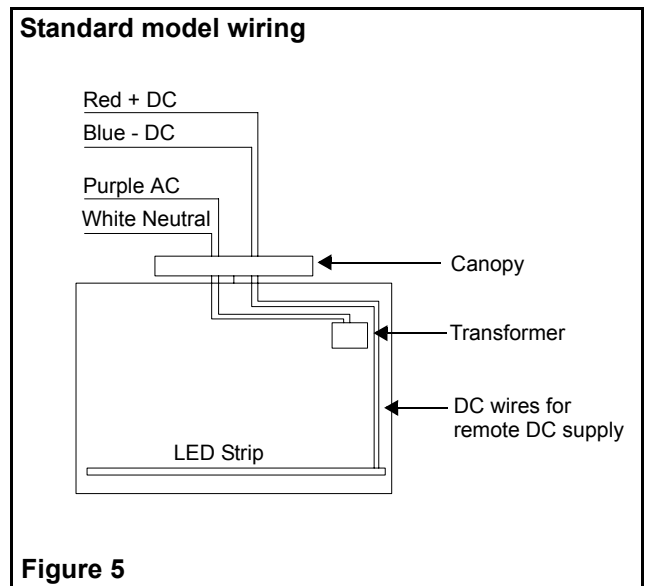

Figure 5
- g. Route the AC supply wires and ground wire from the exit through the rectangular hole in the exit housing and through the slot in canopy. Make the proper connection. In standard unit, our system can accept input voltages from 120 to 347 VAC. Therefore, connect the purple (hot) and white (common) leads to the building utility (see fig. 5). Make sure to insulate or cap unused wire. Feed the excess wire into the junction box.
- d. Make the proper connections. In standard units, our system can accept input voltages from 120 to 347 VAC. Therefore, connect the purple (hot) and white (common) leads to the building utility. Make sure to insulate or cap unused wire. Feed excess wire into the junction box (see fig. 5)
Refer to fig. 5 for AC & DC wiring.